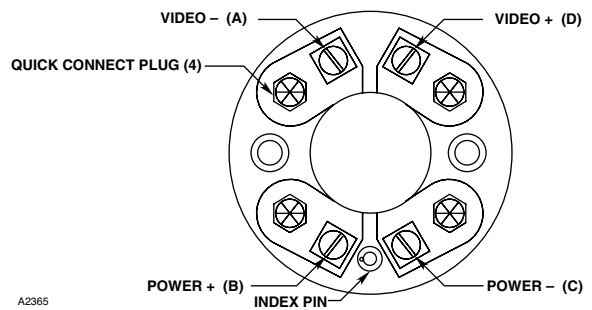

Figure 6—xWatch Wiring Terminal Block
3. Connect the external wiring to the screw connectors marked A-, B-, C-, and D- on the xWatch terminal block. See Figure 6.